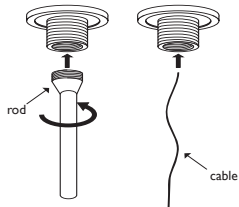

Fig. 4.2
7. Take the membrane hanger and attach it to a rod, a cable or alike, as seen in fig. 4.2.